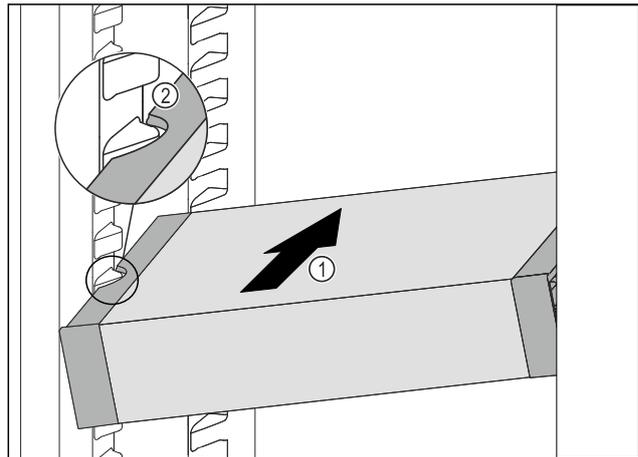

Fig. 100
- ▶ Insert the VarioSafe into the fridge section at an angle Fig. 100 (1) until the recesses in the side Fig. 100 (2) of the VarioSafe are at the level of the support rib in the fridge section.